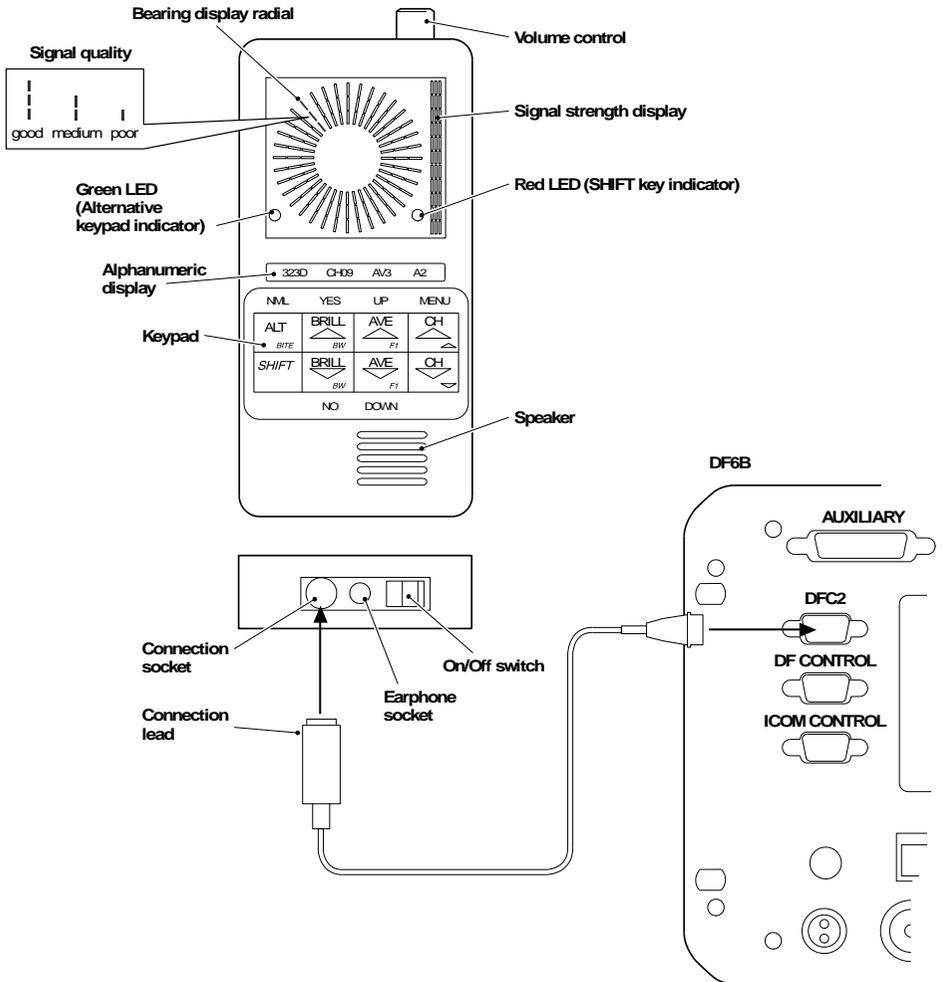

Figure 6.1 The DFC2 Hand-held Controller
6.1 Function (Figure 6.1)
6.2 Installation and Disconnection (Figure 6.1)